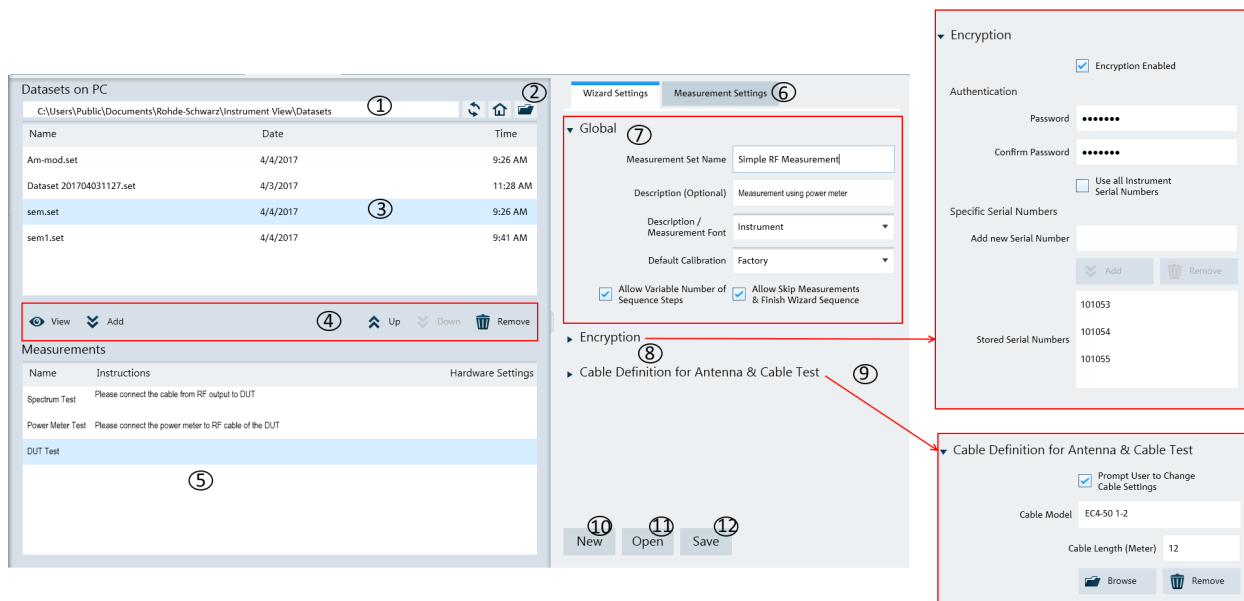

Figure 5-52: Wizard editor
The measurement table list forms the measurement sequence in the wizard set. See item 5 in Figure 5-52
The "Wizard " editor allows you to open, edit and save the measurement wizard set. See Figure 5-52.
To arrange the measurement sequence in the wizard set, double clicked or "Add" the desired dataset from the PC folder directory to the measurement table list. See index 4 and 5 of Figure 5-52.
Navigates from the list of datasets in the measurement table list (see index 5 of Figure 5-52) and select the desired dataset for configuration.